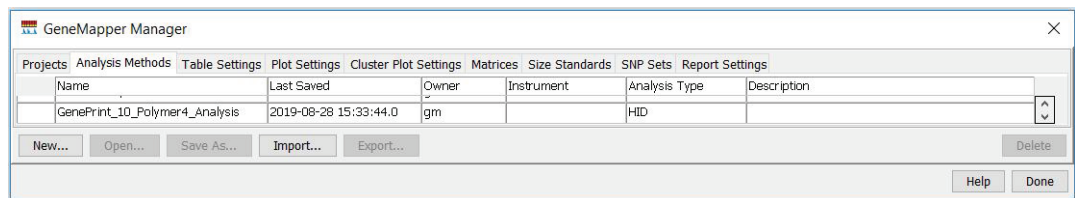

Figure 24. The GenePrint 10 Analysis Method will have 'HID' as the analysis type.
4. Note that this method will have 'HID' as the analysis type (Figure 24).